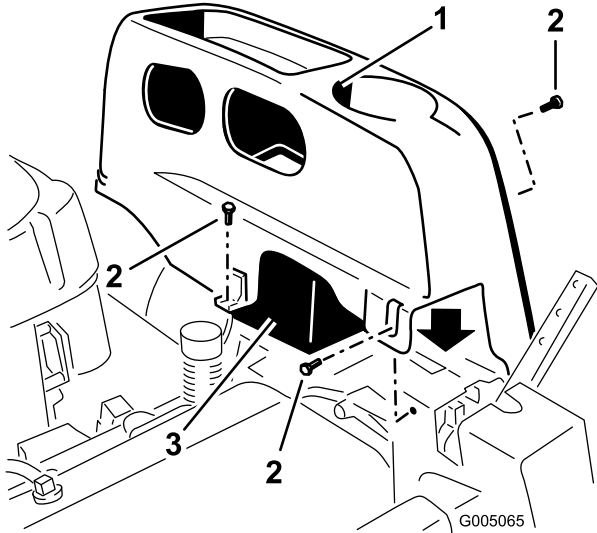

Figure 19
2. Remove the TORX® head fasteners (25) securing the left cover to the frame as shown in Figure 19.